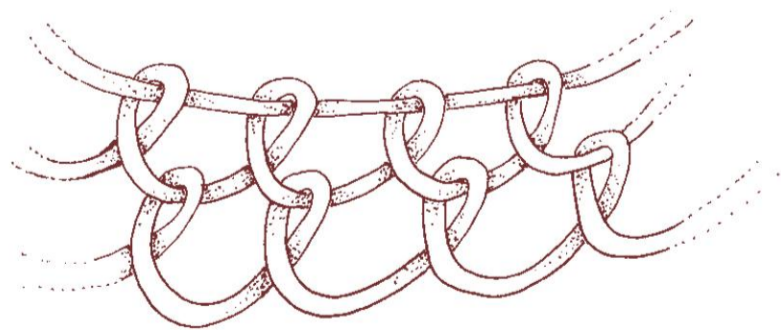

Figure 2
**9** Begin to loop by threading the end of the wire stitch over the back side of the wire, as you pull around to the front catch the loop in the stitch. Repeat this process along the wire until you have completed the initial circle. Make small stitches, but make sure they have a distinct loop with a visual opening (see figure 2). If you made the stitch too tight, you will not be able to build on them with more stitches.